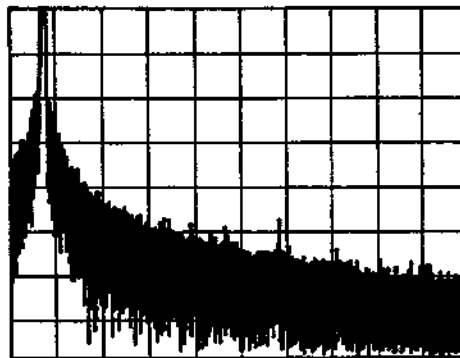

Figure 4-7. Spurious Test Spectrum Analyzer Display (321.8 MHz, 50kHz/Division, 1 kHz Bandwidth)
- Set the Generator frequency to 320.0 MHz and amplitude to 0.0 dBm. Set the spectrum analyzer input attenuator to the minimum attenuation allowable with a 0 dBm input signal. Adjust the tuning so the signal is centered on the second vertical graticule line from the left of the screen. Use 50 kHz resolution and 1 kHz bandwidth settings. Set the reference level to -40 dBm. The display should be as shown in Figure 4-7.